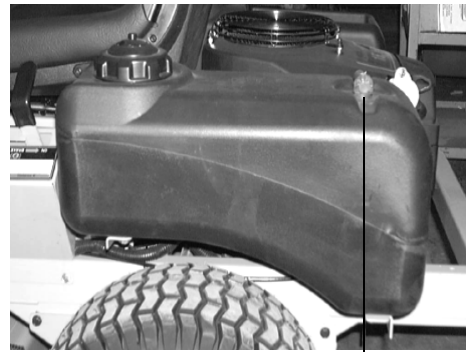

Figure. 4
7. **Fuel Shutoff Valve:** (See Figure 4.) Located on top of the fuel tank. When turned in a clockwise direction until it stops, it will shut off the flow of fuel to the engine. When turned in a counterclockwise direction it will open and allow fuel to flow to the engine. Close this valve if you are not going to run the mower for a period of 30 minutes or more to prevent flooding the engine.